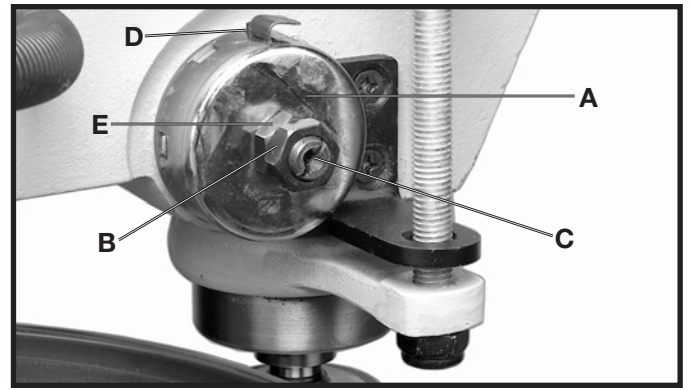

Fig. 27
1. Loosen nut (B) Fig. 27. Loosen nut (E) approximately 1/4 turn, making sure spring housing (A) stays engaged with head casting.
2. While **FIRMLY HOLDING** spring housing (A) Fig. 27 pull out housing and rotate it until boss (D) is engaged with the next notch on the housing. Turn the housing counterclockwise to increase or clockwise to decrease spring tension. Then tighten nut (E) and then nut (B), to hold the housing in place. **IMPORTANT: Inside nut (E) should not contact spring housing (A) when tightened.**